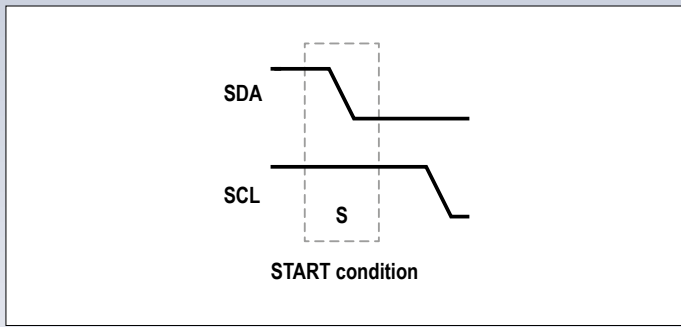

Figure 4. Start condition.
1. To begin a transmission, the master pulls first the data line SDA and then the clock line SCL low (see **Figure 4**). This sequence is called a 'start condition'.
Figure 4. Using the SWA user define capability to analyze an amplitude modulated (AM) signal. The parameter values for the modulation level, carrier- and modulation frequency can be entered in the input fields displayed.